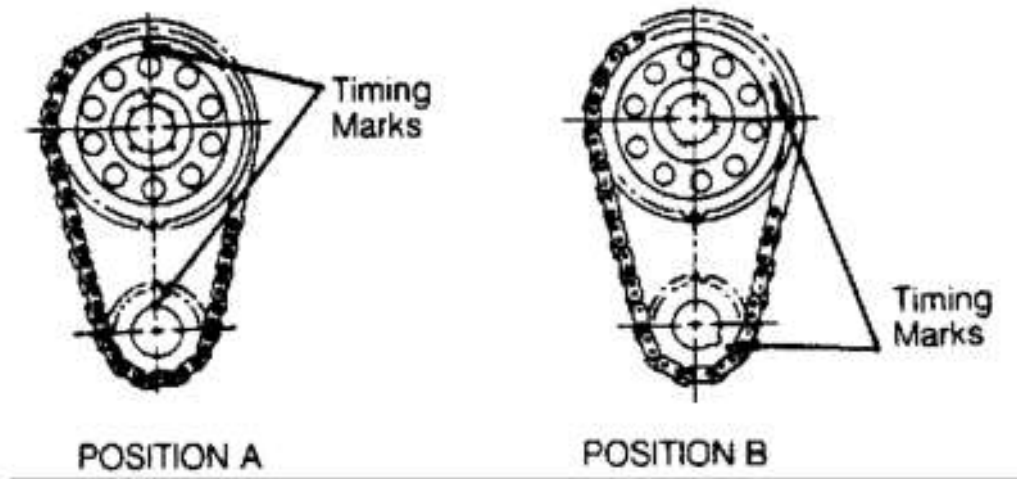

Fig. 1: Identifying Valve Adjustment Positions
1. Following procedure is done with front cover removed. Rotate crankshaft to position "A". See **Fig. 1**. Completely collapse No. 1 intake valve lifter. While holding valve lifter fully collapsed, use feeler gauge to measure clearance of No. 1 intake valve between rocker arm and tip of valve stem.
3. Rotate crankshaft to position "B". See **Fig. 1**. While holding valve lifter fully collapsed, use feeler gauge to measure clearance of No. 1 exhaust valve between rocker arm and tip of valve stem. Repeat procedure for specified valves. See, in this article, **VALVE ADJUSTMENT SEQUENCE** table.